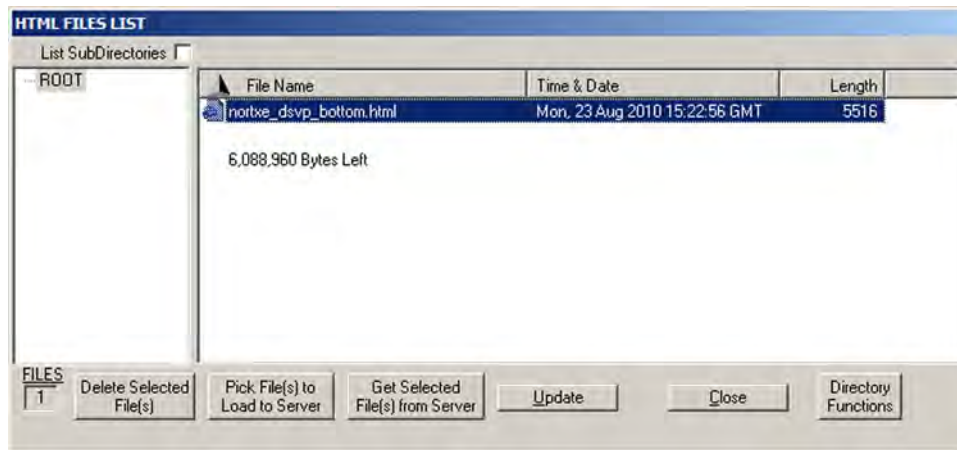

Figure 82. HTML Files List Window
- The file listed in figure 82 is shown for example only and may not be present on your switcher.